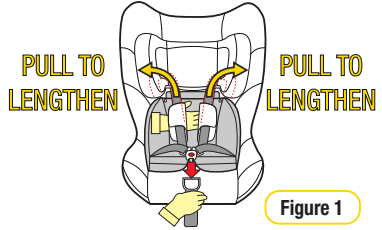

Figure 1
- Step 2:** To lengthen the harness “PRESS” the harness adjuster (refer Figure 1) whilst grasping both shoulder harness straps and pulling. Ensure shoulder straps are pulled equally on each side.